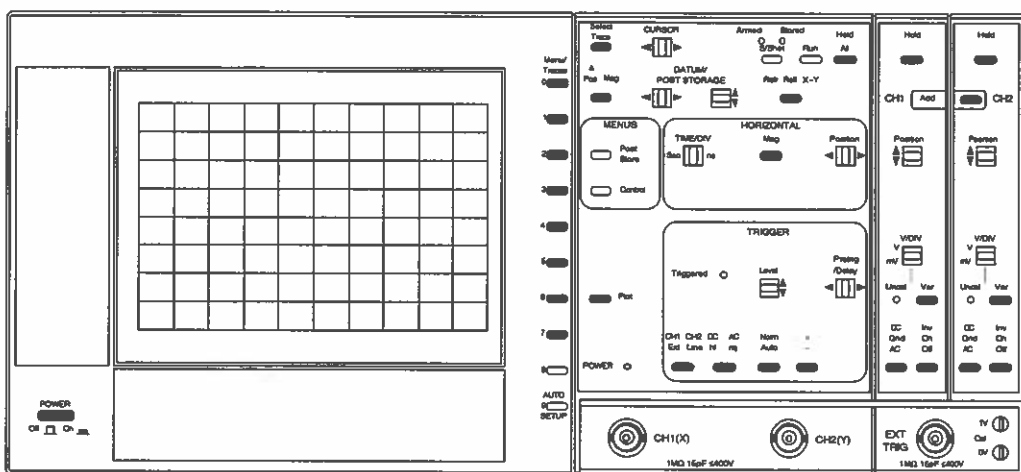

Figure 1.2b The Toggles
Toggle buttons either switch something on or off e.g. Add (22), or select the next item in a sequence e.g. Off/On/Inv (21). See figure 1.2b.